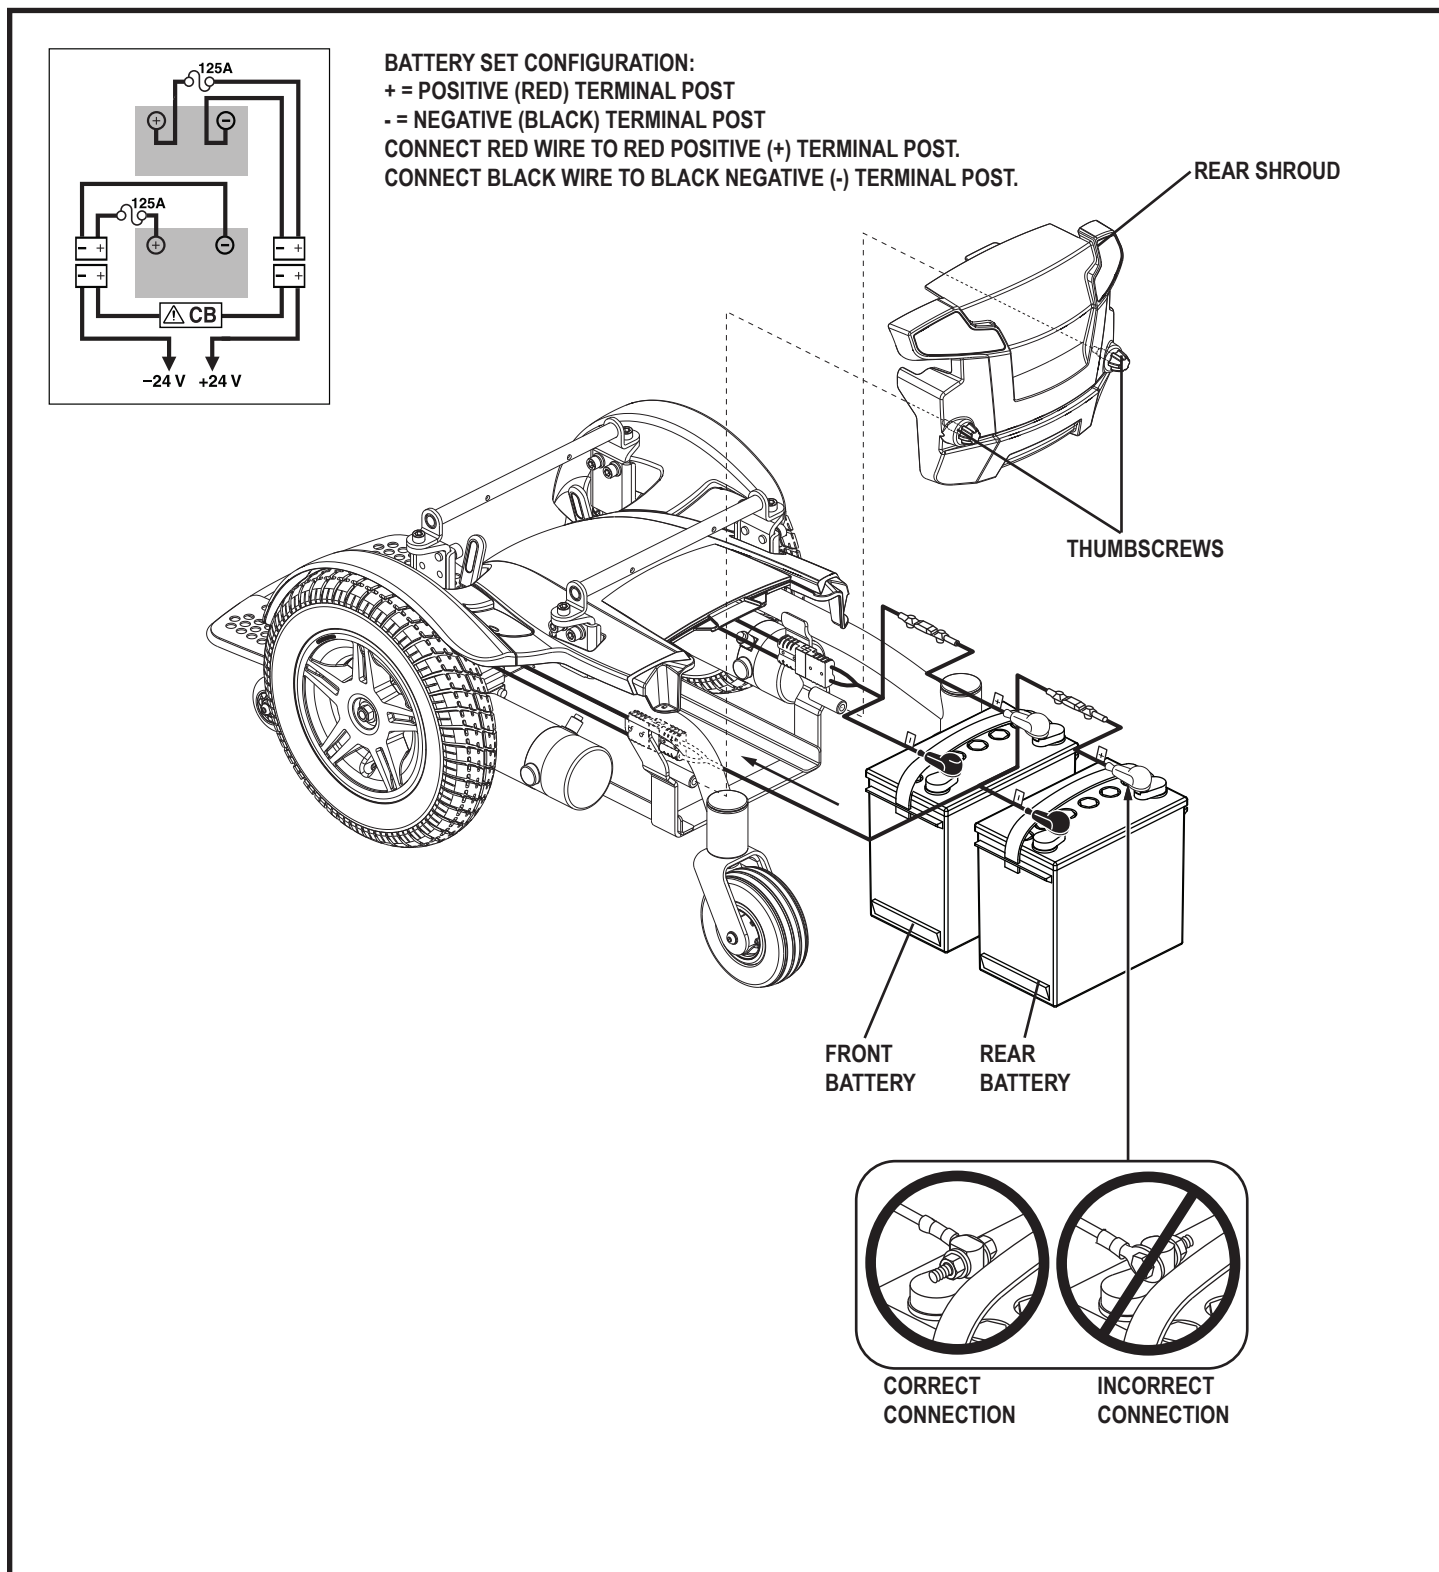

Figure 20. Battery Installation
5. Loosen the thumbscrews from the rear of the power chair. **See figure 20.**
7. Disconnect the battery cables from the terminals of each battery. **See figure 20.**
9. Install new batteries into the power base. Make sure the terminals of each battery are facing the rear of the power chair. **See figure 20.**
10. Connect the front battery cable to the front battery terminals according to the battery wiring diagram. Make sure that the battery terminal hardware is facing the correct direction. **See figure 20.**
11. Connect the rear battery cable to the rear battery terminals according to the battery wiring diagram. Make sure that the battery terminal hardware is facing the correct direction. **See figure 20.**